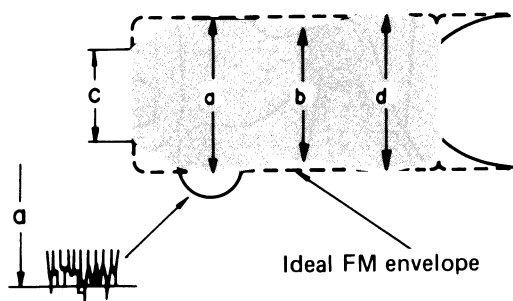
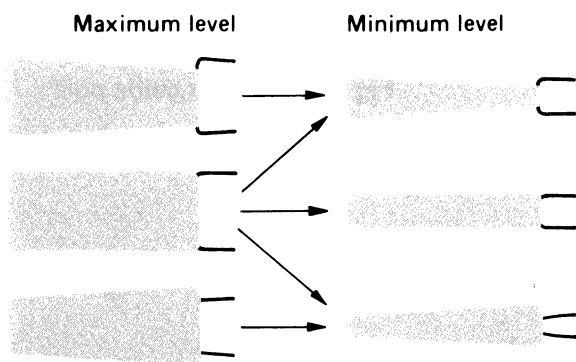

Fig. 15 FM waveform (max. output)
Fig. 16 Normal waveform examples
4. Refer to **Fig. 15**. Read the level of portion (a) of the waveform. If the waveform is serrated at point (a), read the value at the most uniform serrations as shown at left in **Fig. 16**.
1. Observe the FM waveform as in the previous section (① - A) and turn the Tracking control. The waveform variation should be nearly parallel as shown in **Fig. 16**.